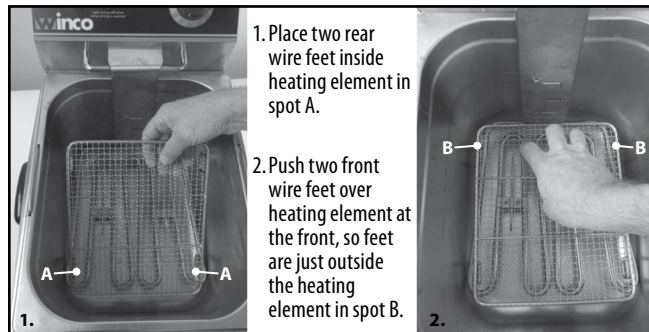

Figure 5. Insert Wire Mesh Heating Element Cover (M)
2. Remove basket(s) (I) from fryer.
3. Insert Wire Mesh Heating Element Cover (M) (Figure 5)